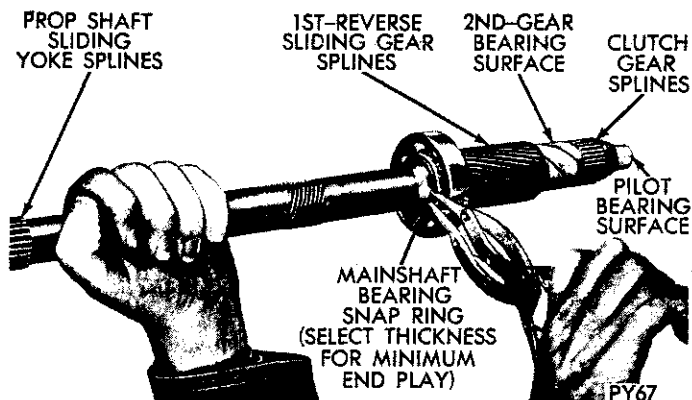

Fig. 23—Mainshaft and Bearing Assembly
- (4) Remove selective snap ring from shaft (Fig. 23) and press bearing off the mainshaft.
Inspect mainshaft gear and bearing mating surfaces. If gear contact surfaces show signs of galling or are excessively worn, a new mainshaft should be installed (Fig. 23).